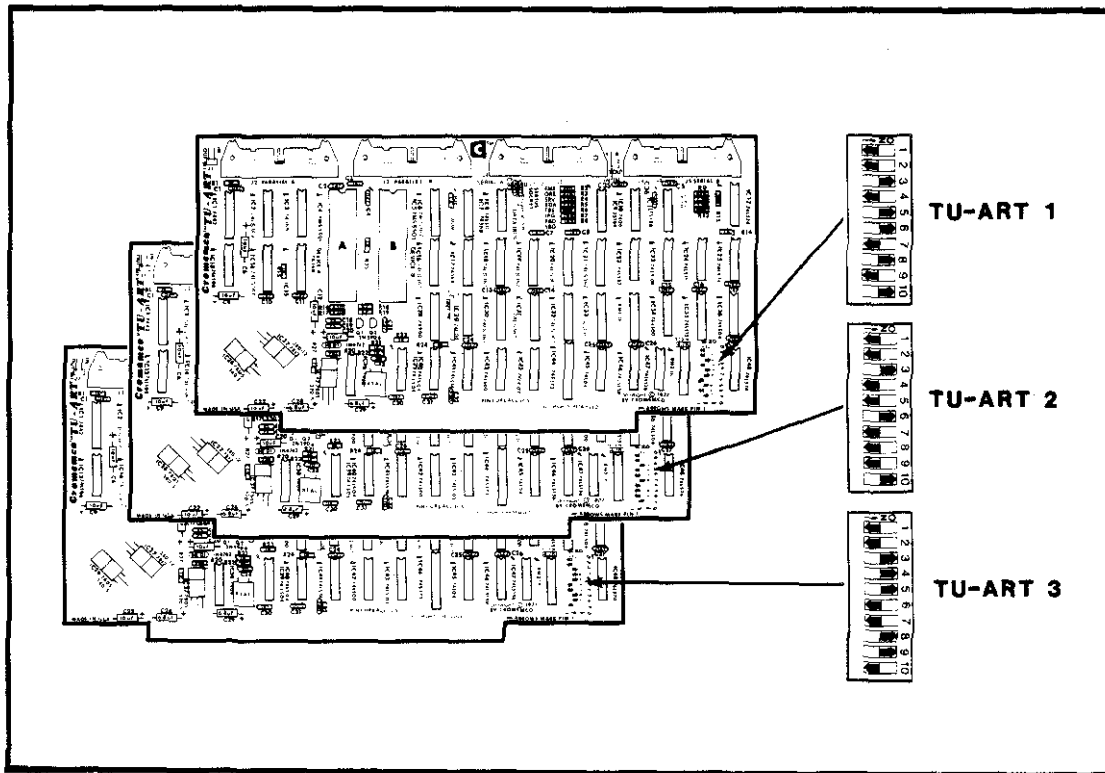

Figure F-9: SWITCH SETTINGS FOR TU-ART BOARDS
**TU-ART Board** - This is an interface board for two terminals. Figure F-9 shows the proper switch settings for this board.